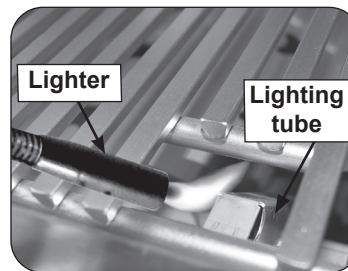
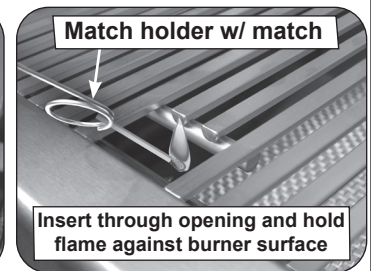

Fig. 37-2 Manual lighting via lighting tube
Fig. 37-3 Manual lighting via match holder
2. Insert either a burning long-barrel butane lighter or a burning long-stem match through the cooking grid opening to the top of the lighting tube. (Fig. 37-2). For backburners or infrared burners, hold the flame against the surface of the backburner/infrared burner. For charcoal burners, hold the flame near the burner. Grills equipped with an infrared burner include a wire extension match holder (attached to drip tray) to assist with manual lighting (Fig. 37-3).
4. If the burner does not light within five (5) seconds of turning the control knob, **immediately depress the knob and turn the valve to OFF**. **WAIT FIVE (5) MINUTES** before repeating steps 2 through 4 of the **MANUAL LIGHTING** instructions.